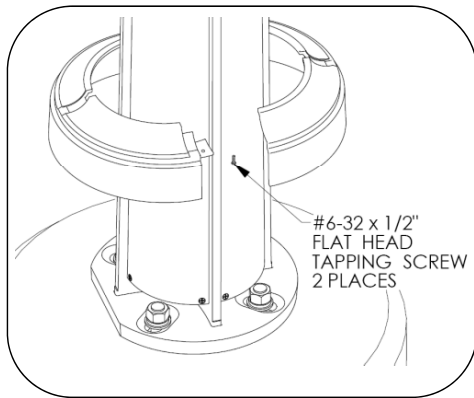

Fig.9 – Install cover plate
2. Install tapping screw as noted in Fig. 9, two places.